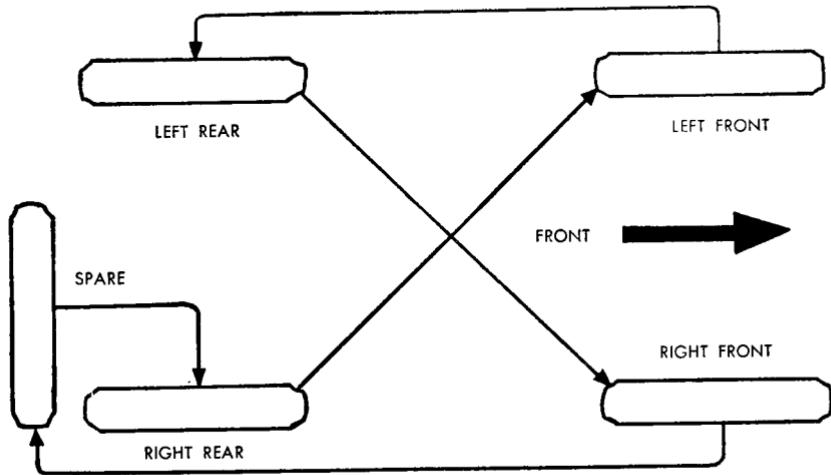

Figure 123. Tire rotation plan.
- (1) Replace any tire with noticeable cut on tread or side wall. Return old tire to ordnance maintenance unit for repair. If uneven wear is indicated, check toe-in adjustment (par. 234). If incorrect toe-in is not the cause, report to ordnance maintenance personnel.
- (2) Check pressures when tires are cold. Dismount any tire showing unusual pressure loss and examine tire tube for cause. Repair tire tube or replace tube or tire if necessary.
- (3) Inflate all tires to equal pressures, as unequal pressures will affect steering and braking adversely. Inflate tires to pressures designated in paragraph 254b. Underinflated tires are easily damaged. Install all valve caps to prevent air loss.
c. *Tire Rotation*. To maintain equal wear, rotate tires in accordance with the tire rotation plan, shown in figure 123, at intervals of approximately 2,000 miles, if the tactical situation permits.